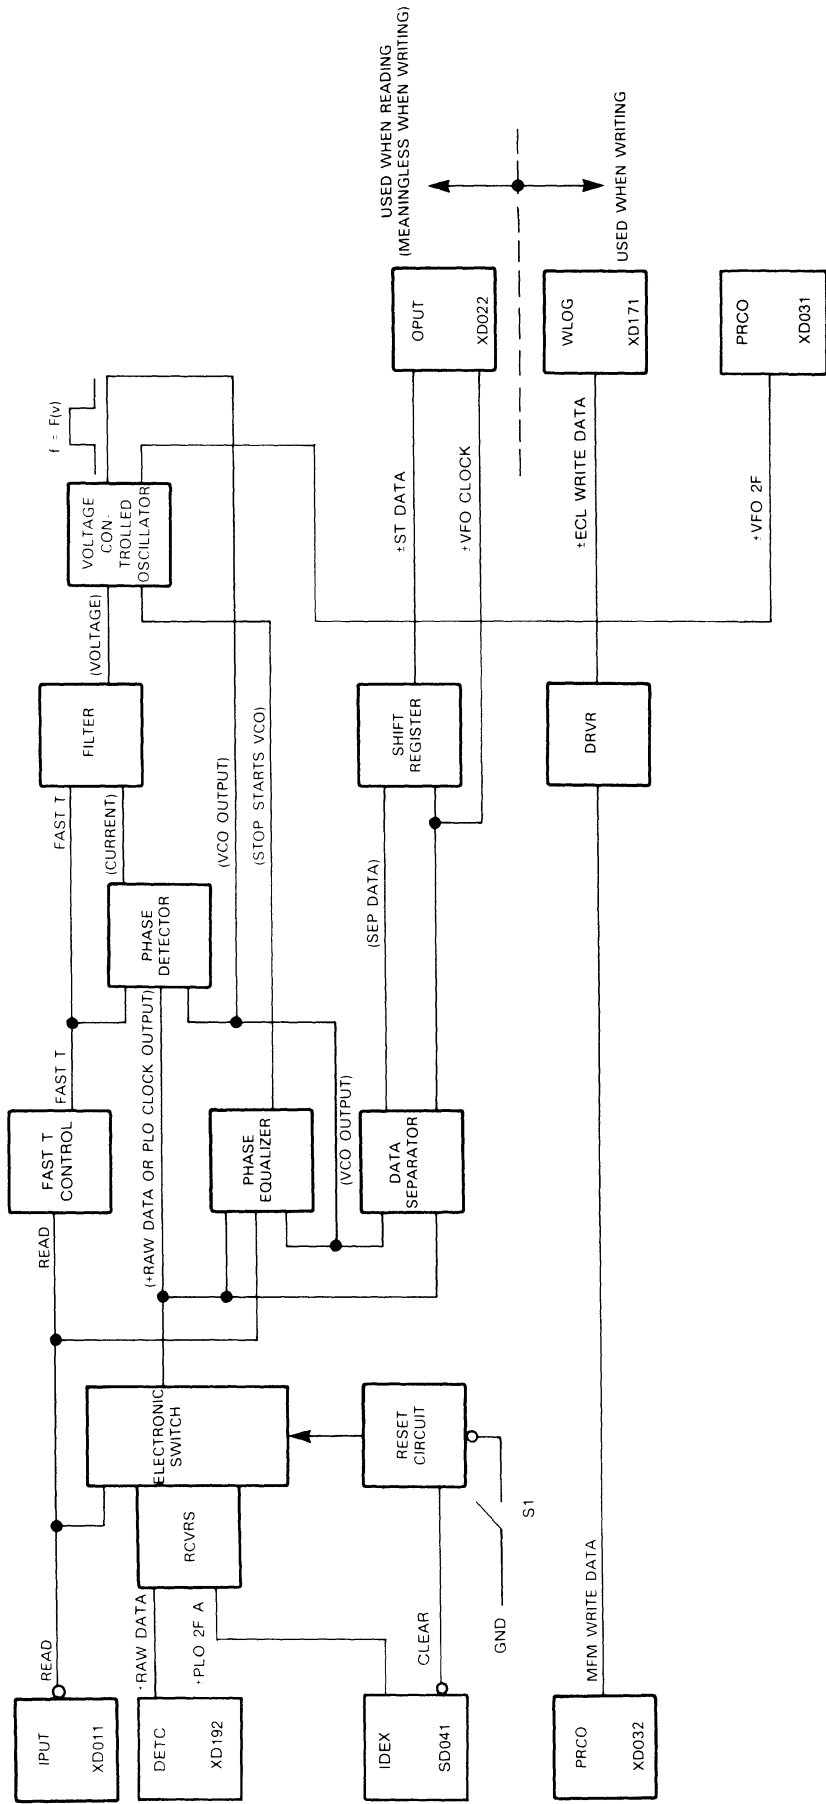

FIGURE 3-13. VARIABLE FREQUENCY OSCILLATOR PCB (VFO)
The block diagram of VFO logic in Figure 3-13 illustrates how the two functions discussed above (and a third function, discussed in paragraph 3.3.4.2) are provided. The generation of ST DATA and VFO CLOCK is described below, addressing the using blocks in Figure 3-13.
**Driver.** The Driver shown in Figure 3-13 is used when writing to convert the TTL write data (MFM WRITE DATA) to ECL differential write data (ECL WRITE DATA), and to transmit the converted data on a twisted pair line to write logic. Its operation is entirely independent of the VFO. For example, during a write operation the  $\pm$ ST DATA output of the VFO is meaningless.
Index PCB contains a circuit that monitors regulated power supplies in the drive, and generates an indicator of unsafe voltage (CLEAR) if any voltage is not within a specified range. CLEAR being true resets the oscillator in VFOS, as shown in Figure 3-13.